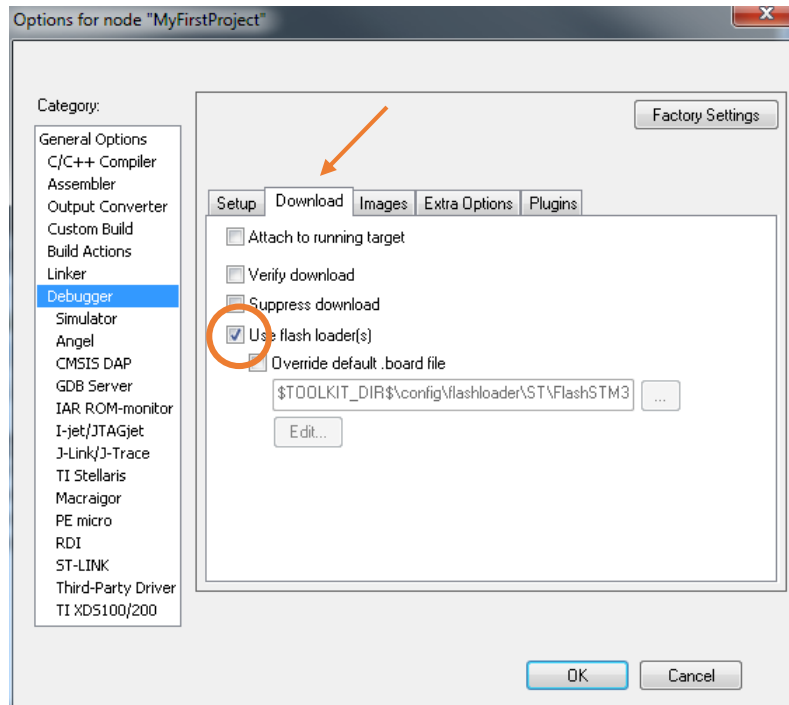

Figure 3.14: The programmer should load the machine code into flash memory
- Since we want to load the machine code into the flash memory the programmer must use the appropriate protocol for the download, namely the flash loader, see Fig. 3.14.